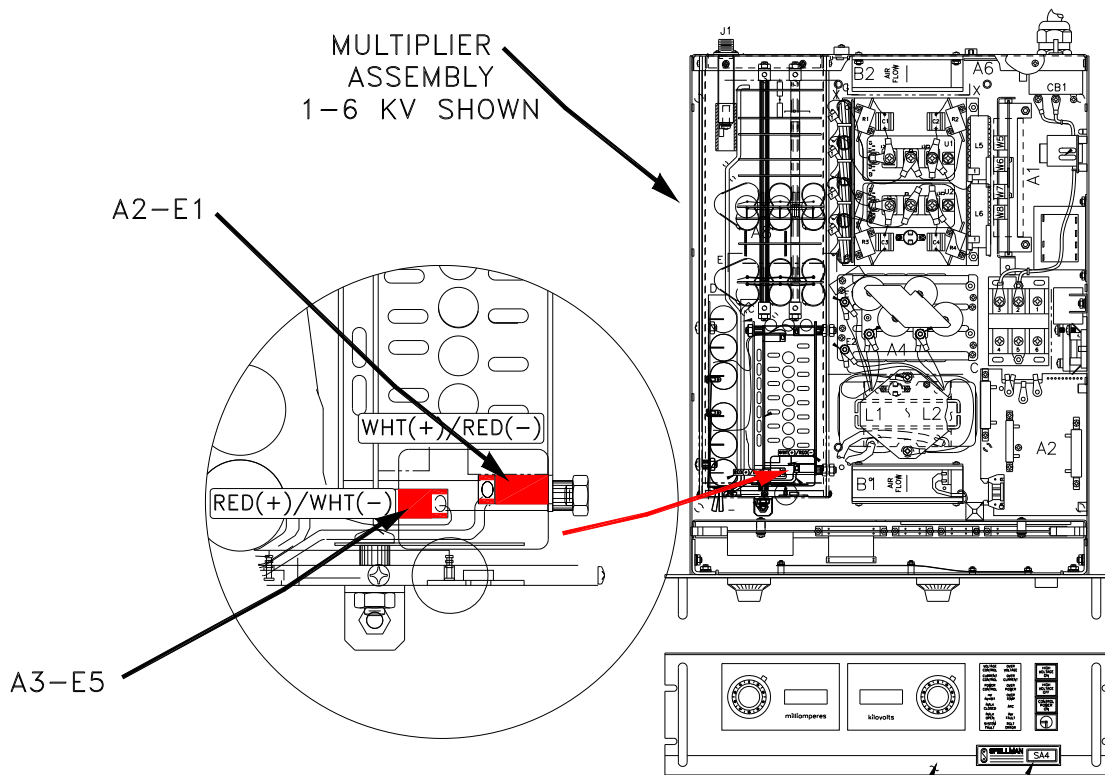

FIGURE 5.7 POLARITY REVERSAL, 1-6 KV and MULTIPLIER LOCATION 1-70KV
4. Locate the multiplier assembly within the chassis. Refer to Figure 5.7